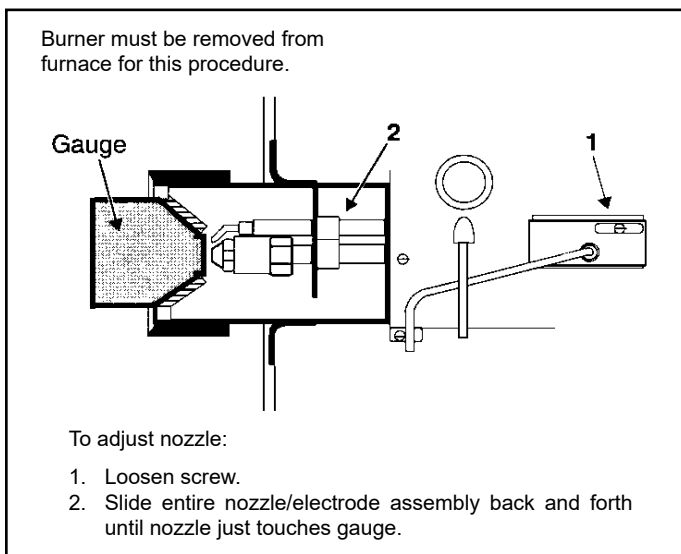

**Figure 11. Beckett Oil Burner Air Shutter/Band**
5. If the burner is producing more than #1 smoke, adjust the air shutter (primary), and air band (secondary) to reduce the smoke (see Figure 11). To adjust the air shutter, loosen the top screw on air shutter (and lower screw, if necessary) and rotate the shutter until desired smoke level is achieved. If smoke cannot be reduced to desired level by moving the air shutter, adjust the air band to increase the air. To adjust the air band, loosen the air band screw and rotate the band.